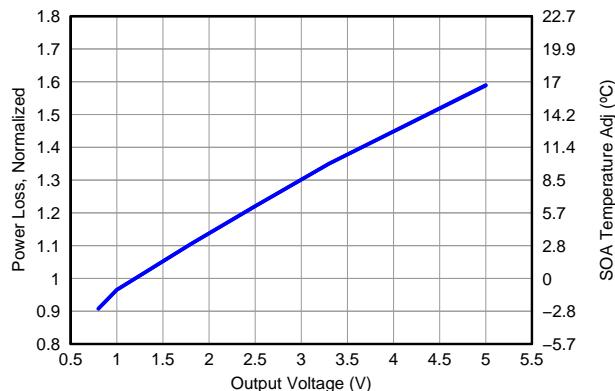

Figure 14. Normalized Power Loss vs Output Voltage
- Normalized Power Loss for output voltage  $\approx 0.7$  (Figure 14)
- SOA adjustment for output voltage  $\approx -1.0^{\circ}\text{C}$  (Figure 14)